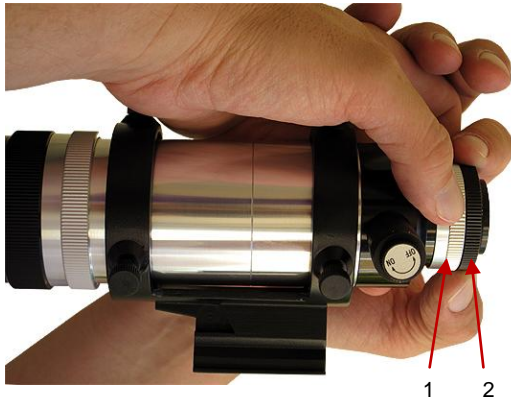

Fig. 2, Eyepiece Focusing
1. Loosen the eyepiece focus adjustment by turning it counterclockwise while firmly holding the eyepiece focus lock ring (1, Fig. 2). Further separate the eyepiece focuser (2, Fig. 2) and the focuser lock ring to allow a good range of adjustment.
2. Aim the finder scope at a blank wall and concentrate your eye on the crosshairs. Turn the eyepiece focuser (2, Fig. 2) left or right until you see the finder scope crosshairs perfectly sharp.
3. Once you have found perfect crosshair focus, turn the eyepiece focuser lock ring (1, Fig. 2) against the eyepiece focuser (2, Fig. 2) until it is snug so that it holds the eyepiece focus position.